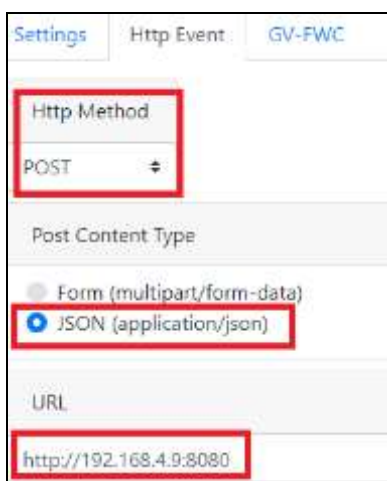

Figure 14-9
4. Under **Face Recognition Data**, click **+** to add the parameters *Note2*, *Group*, *Snapshot*, *Name*, *MAC* and *Note1*, exactly as illustrated by Figure 14-9.